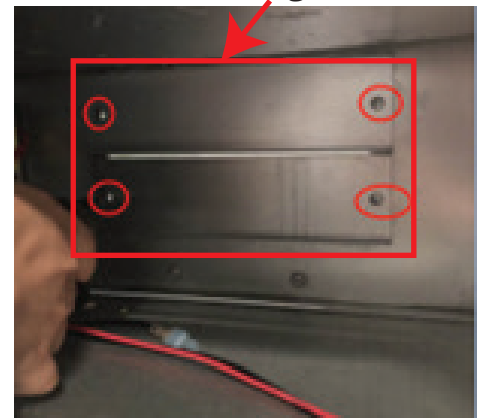

Fig. 8
- 4.) Remove the air duct sealing plate from the air handler (See Fig. 8).